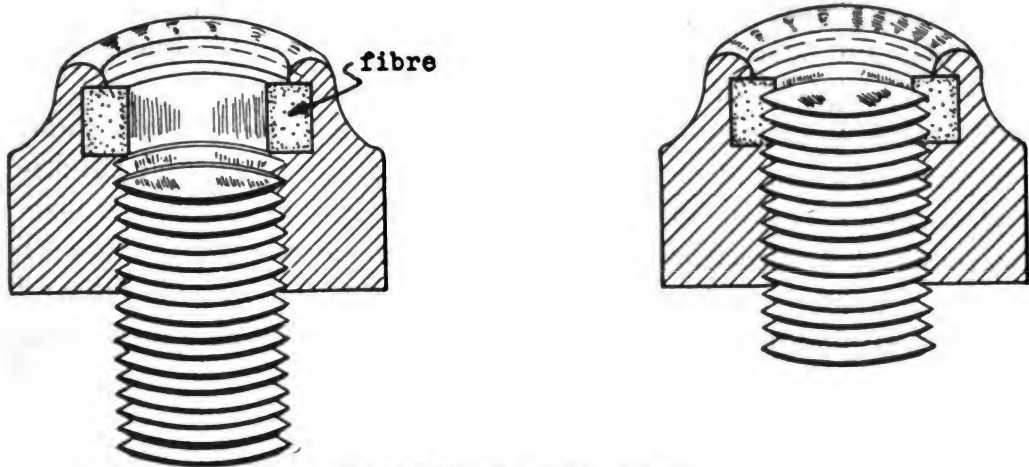

FIGURE 35.—Elastic stop nut.
**34. Elastic stop nut.**—Standard nut with increased height to incorporate a fiber collar. In figure 35 is shown a cross section of an elastic stop nut.